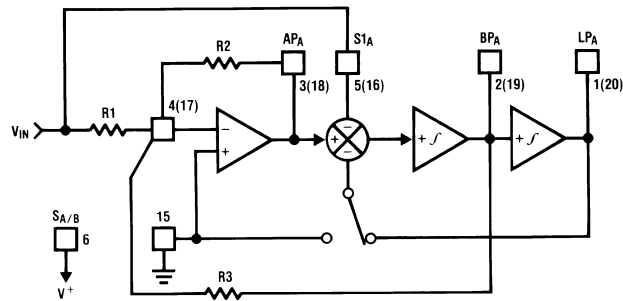

Figure 28. MODE 4
**MODE 4: Allpass, Bandpass, Lowpass Outputs (See Figure 28)**